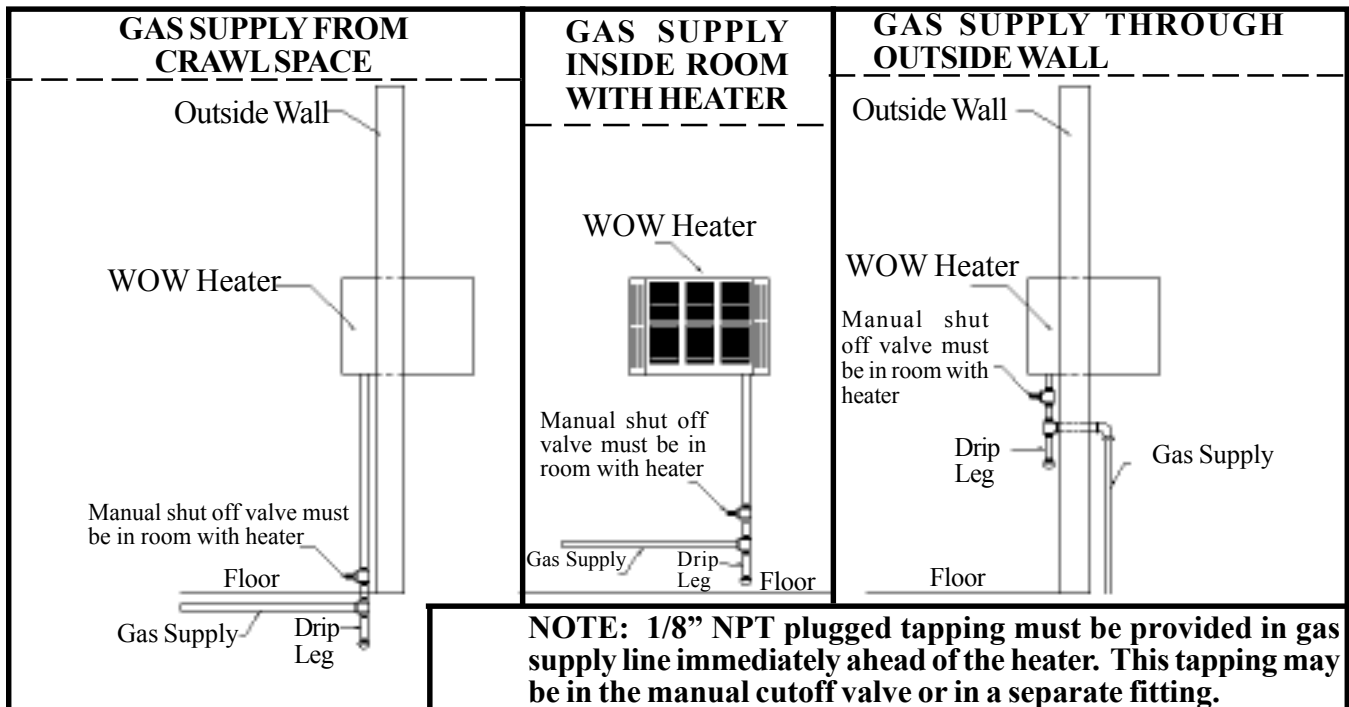

FIGURE 4
5. Install a drip leg in gas supply line immediately upstream from the gas connection to heater. (see local codes), and provide a 1/8" N.P.T. plugged tapping, accessible for test gauge connection and an individual manual shut off valve accessible within room where heater is installed. (See Figure 4). The heater and its individual shut off valve must be disconnected from the gas supply piping system during any pressure testing of that system at test pressures in excess of 1/2 psig (3.5Pa). The heater must be isolated from the gas supply piping system by closing its individual manual shut off valve during any pressure testing of the gas supply piping system at test pressures equal to or less than 1/2 psig (3.5Pa).
- L.) Connect 3/8" minimum gas supply line to heater. (See Figure 4).
- K.) Connect 3/8" minimum gas supply line to heater. (See Figure 4).